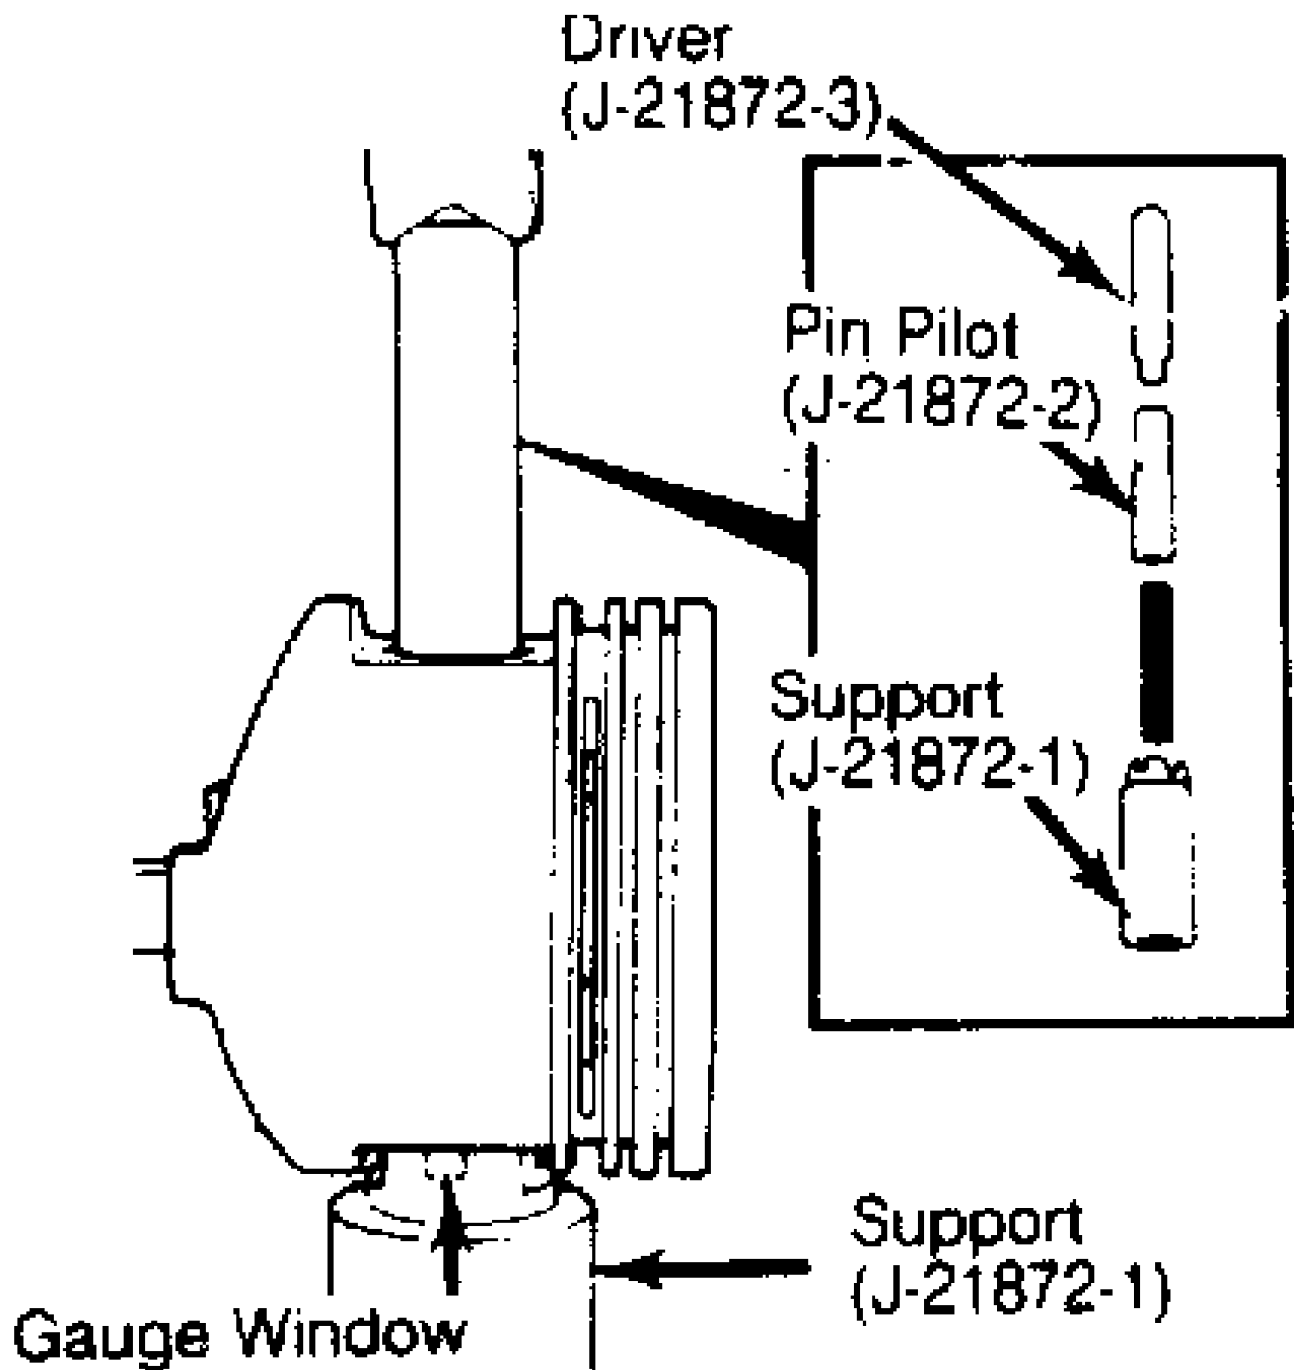

Fig. 6: Piston Pin Removal & Installation
Position piston on Support (J-21872-1), Pin Pilot (J-21872-2) and Driver (J-21872-3) on an arbor press. See Fig. 6. Note location of piston pin through gauge window. Press piston pin from piston.
1) Insert pin pilot through piston and connecting rod. Place assembly on support. Insert piston pin through the upper piston pin bore and into connecting rod pin bore. See Fig. 6.